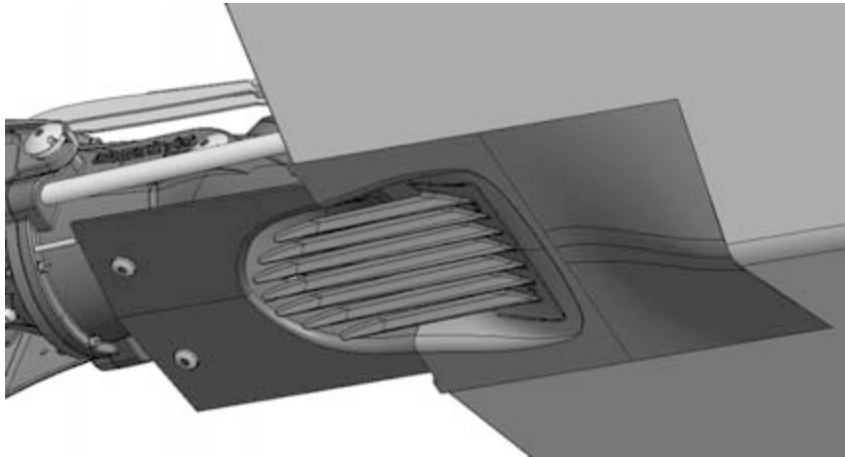

Figure 35. Checking the grass rake for blockages
2. Check the grass rake (Figure 35).